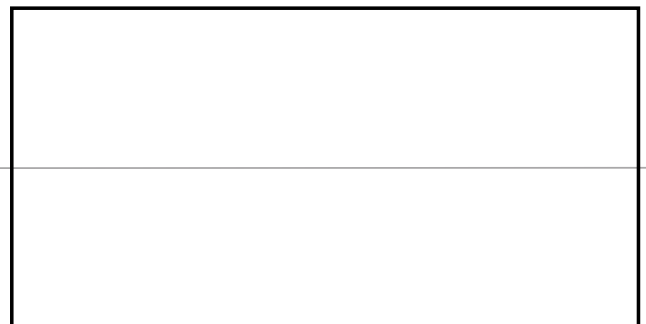

FIGURE 25 Horizontal line for plank layout
- Use a level and mark a horizontal center line across the entire wall with a pencil (Fig 25).